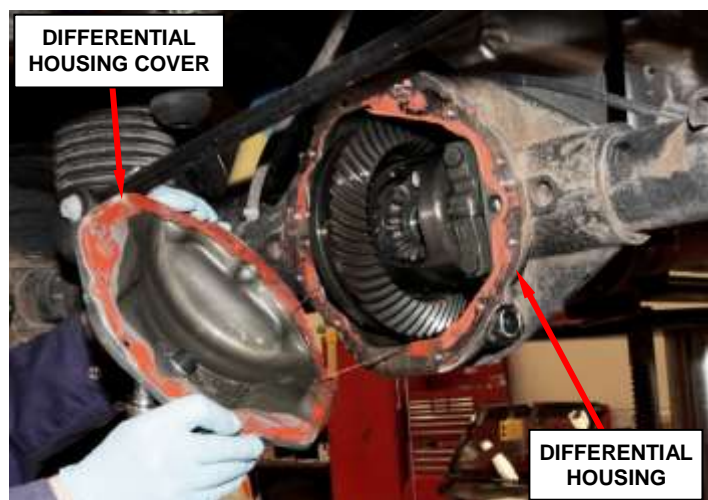

Figure 5 – Differential Housing Cover
10. Remove and save the rear axle differential housing cover (Figure 5).